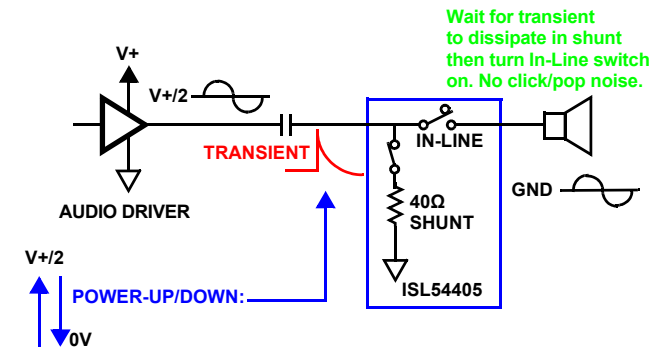

FIGURE 3. AC COUPLED CONFIGURATION WITH ISL54405 INSERTED
1. In a single supply AC coupled application (see Figure 3) the shunt circuitry is activated and directed to the side of the switch connected to the audio drivers to eliminate click/pop noise in the speaker during power up and down of the audio CODEC drivers.
One primary use for the ISL54405 is in an AC coupled single supply application as shown in Figure 3. Its ability to swing below ground allows it to be placed between the AC blocking capacitor and the speaker load. This placement allows one of the ISL54405 internal 40Ω shunts to be used to eliminate click and pop noise during power up and power down of the audio CODEC drivers (see the section titled "Click and POP Control for Single Supply AC Coupled Applications").
The ISL54405 can be used to eliminate the transient from getting to the speaker by placing it between the blocking cap and the speaker as shown in Figure 3. Note: The negative swing capability of the ISL54405 allows it to be placed after the blocking capacitor.